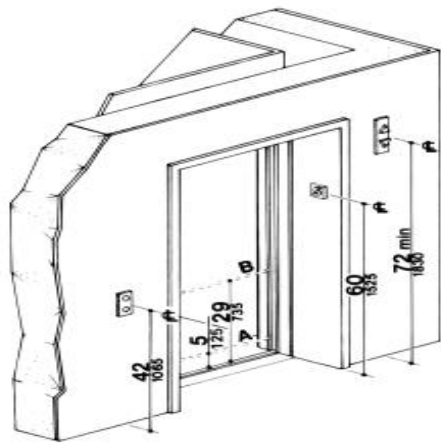

Figure 21
- a) The hall lantern fixture shall be mounted so that their centerline is at least 72 inches above the lobby floor as shown in Figure 21 below.